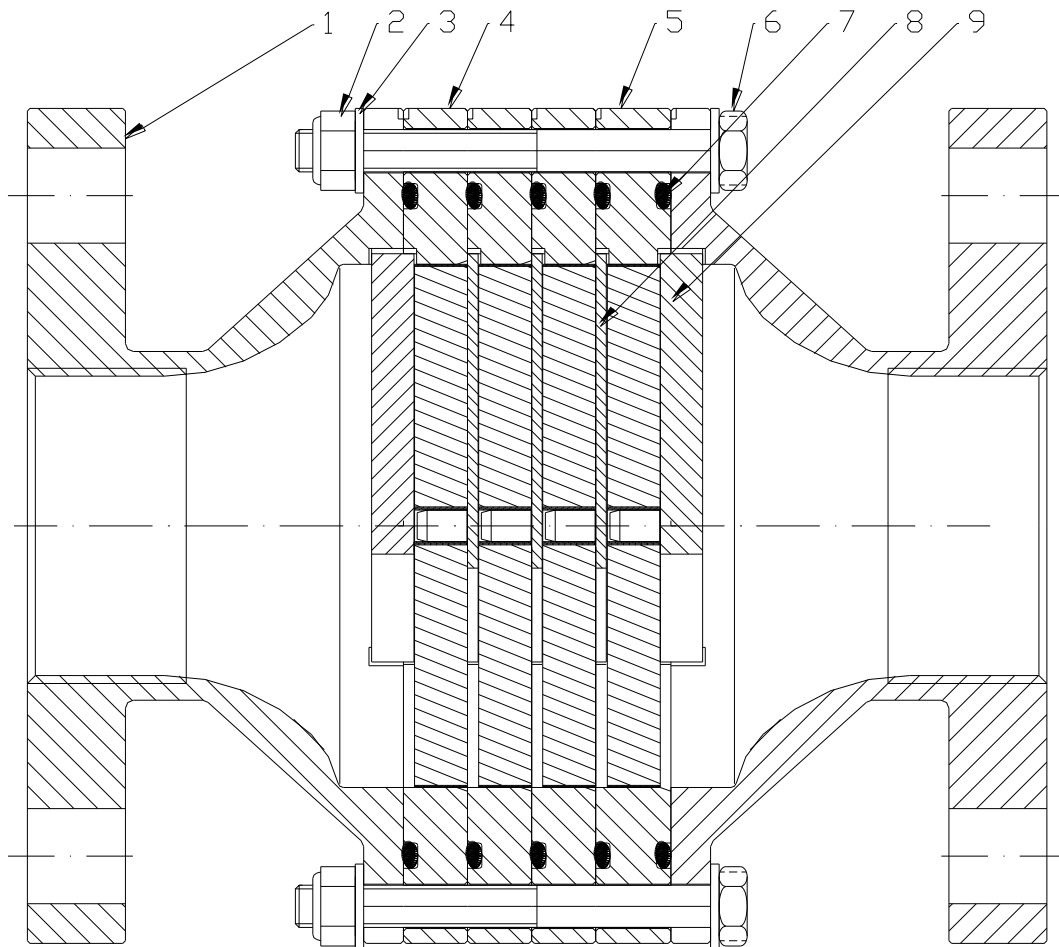

Fig. 1
(See figure 1)
(See fig. 1)
- Spare part no. (Please refer to **fig. 1** for items)